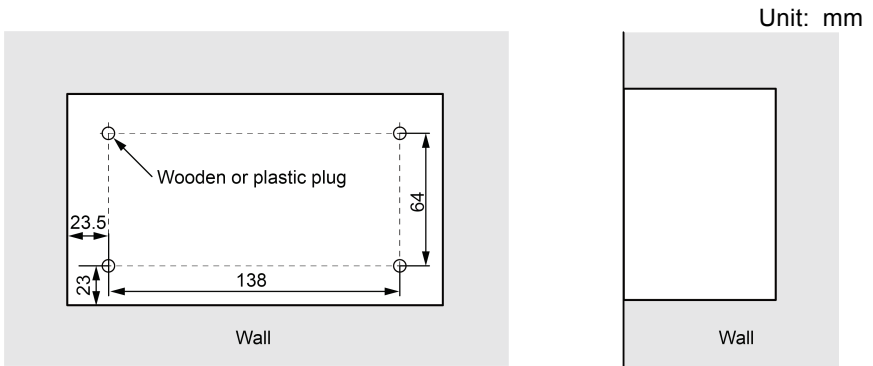

Fig.3.7 Diagram of Wooden or Plastic Plug
- 1) In case that the centralized controller is installed on wall, dig a hole that is the size of 180mm×107mm×62mm and peg 4 wooden or plastic plugs on the wall according to fig.3.7.